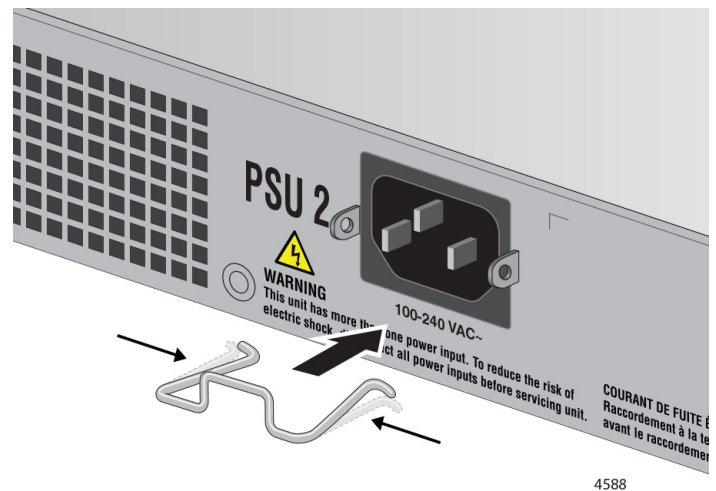

Figure 80. Installing the Retaining Clip
1. To install a power cord retaining clip, position it the “u” part facing down, press in the sides, and insert the ends of the clip into the holes in the retaining bracket on the AC connector on the switch. Refer to Figure 80.